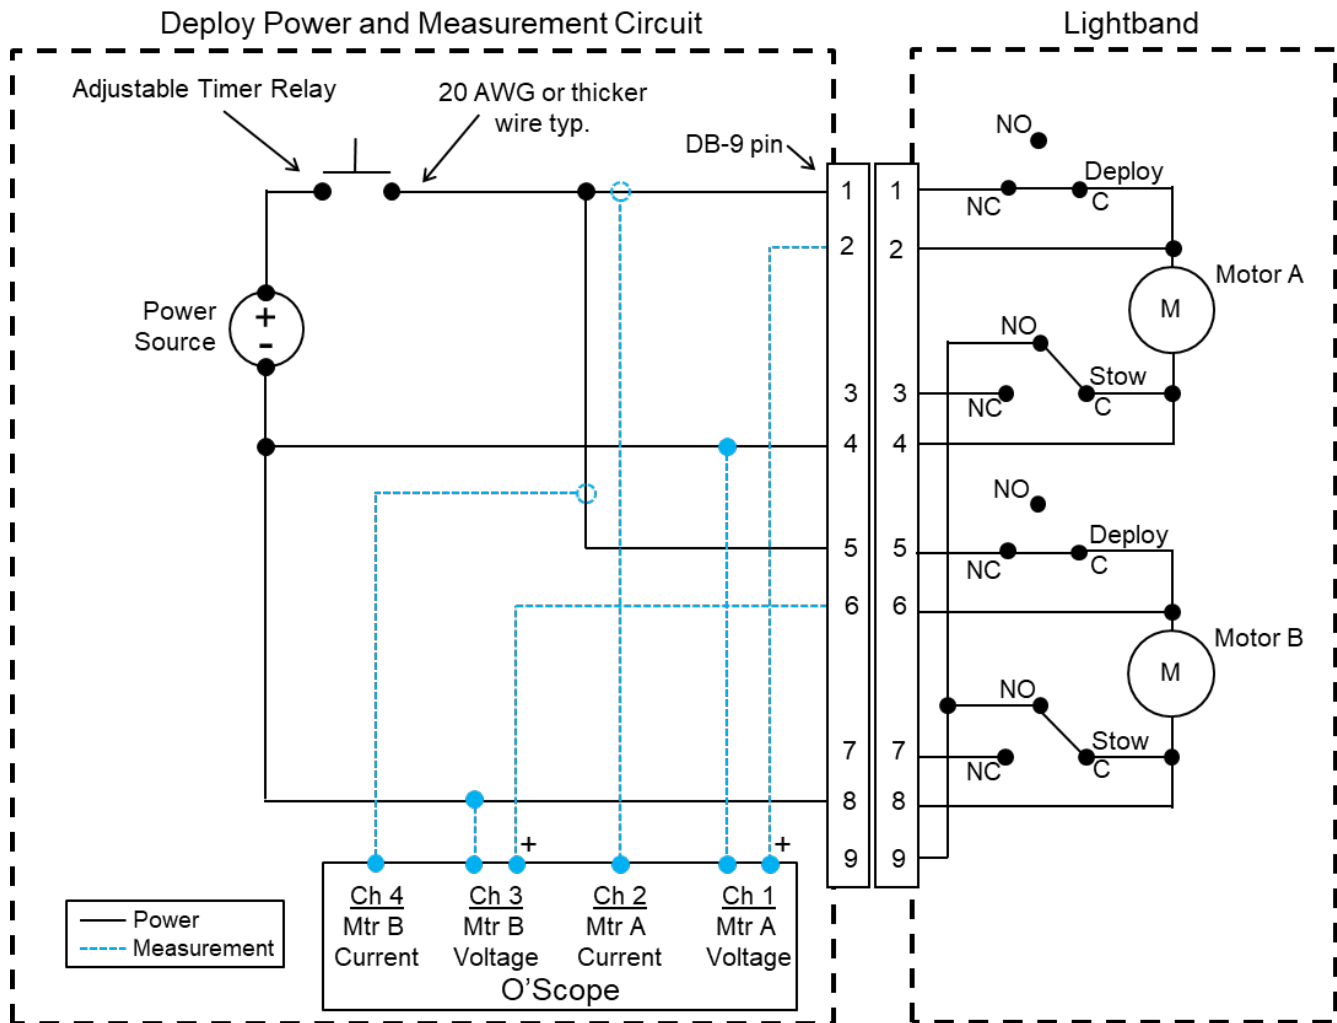

Figure 11-4: Deploy circuit
11.4.3	Verify the DB-9 pin connector of the Deploy Power and Measurement Circuit in Figure 11-4 is visibly clean. Any debris could detrimentally contaminate the Lightband's mating socket connector.
11.4.4	Connect the Lightband to the Deploy Power and Measurement Circuit per Figure 11-4. Do not apply power to the Lightband.